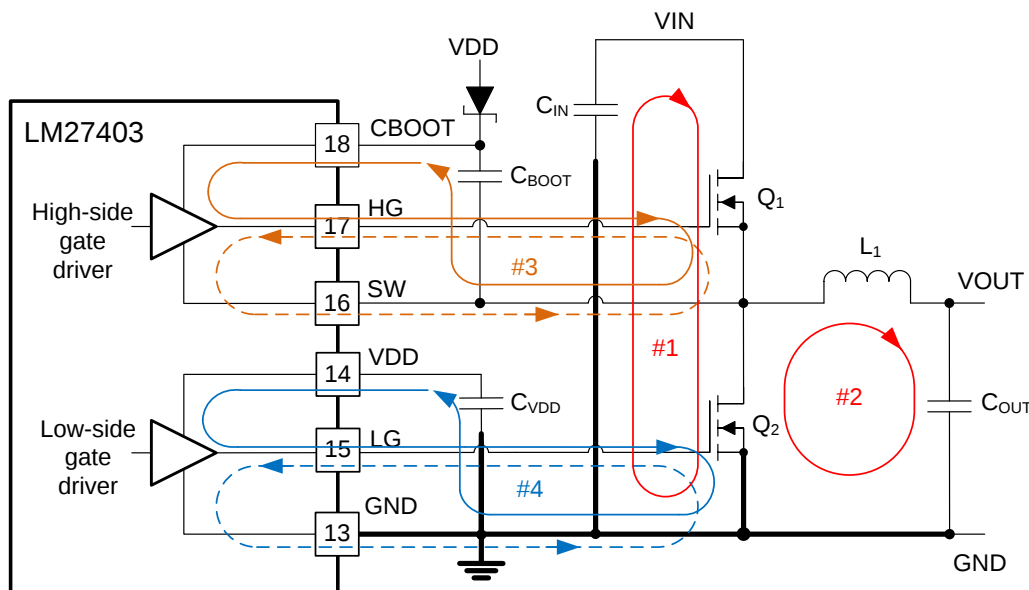

Figure 51. DC-DC Regulator Ground System With Power Stage and Gate Drive Circuit Switching Loops
Proper PCB design and layout is important in a high current, fast switching circuit (with high current and voltage slew rates) to assure appropriate device operation and design robustness. As expected, certain issues must be considered before designing a PCB layout using the LM27403. The main switching loop of the power stage is denoted by #1 in Figure 51. The topological architecture of a buck converter means that particularly high di/dt current will flow in loop #1, and it becomes mandatory to reduce the parasitic inductance of this loop by minimizing its effective loop area. For loop #2 however, the di/dt through inductor L_1 and capacitor C_{OUT} is naturally limited by the inductor. Keeping the area of loop #2 small is not nearly as important as that of loop #1. Also important are the gate drive loops of the low-side and high-side MOSFETs, denoted by #3 and #4, respectively, in Figure 51.
VIN). Refer to loop #1 of Figure 51.
- Loop #2. The second important loop is the path from the low-side MOSFET through inductor and output capacitor(s), and back to source of the low-side MOSFET through ground. Connect source of the low-side MOSFET and negative terminal of the output capacitor(s) at ground as close as possible. Refer to loop #2 of Figure 51.
- 5. The SW pin connects to the switch node of the power conversion stage, and it acts as the return path for the high-side gate driver. The parasitic inductance inherent to loop #1 in Figure 51 and the output capacitance (C_{OSS}) of both power MOSFETs form a resonant circuit that induces high frequency (>100 MHz) ringing on the SW node. The voltage peak of this ringing, if not controlled, can be significantly higher than the input voltage. Ensure that the peak ringing amplitude does not exceed the absolute maximum rating limit for the SW pin. In many cases, a series resistor and capacitor snubber network connected from the SW node to GND damps the ringing and decreases the peak amplitude. Provide provisions for snubber network components in the printed circuit board layout. If testing reveals that the ringing amplitude at the SW pin is excessive, then include snubber components.
- Loop #3: high-side MOSFET, Q_1 . During the high-side MOSFET turn on, high current flows from the boot capacitor through the gate driver and high-side MOSFET, and back to negative terminal of the boot capacitor through the SW connection. Conversely, to turn off the high-side MOSFET, high current flows from gate of the high-side MOSFET through the gate driver and SW, and back to source of the high-side MOSFET through the SW trace. Refer to loop #3 of Figure 51.
- Loop #4: low-side MOSFET, Q_2 . During the low-side MOSFET turn on, high current flows from VDD decoupling capacitor through the gate driver and low-side MOSFET, and back to negative terminal of the capacitor through ground. Conversely, to turn off the low-side MOSFET, high current flows from gate of the low-side MOSFET through the gate driver and GND, and back to source of the low-side MOSFET through ground. Refer to loop #4 of Figure 51.